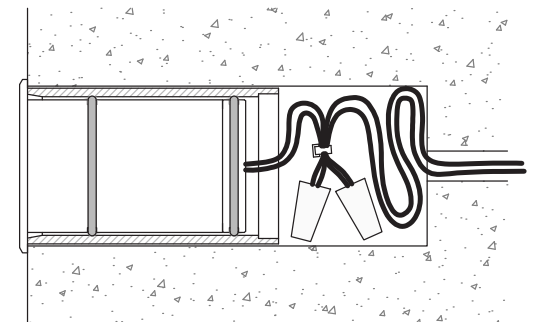

Figure 1c
6. Feed wires into Housing and slide the Faceplate/Cylinder assembly in until the Faceplate bottoms out on the mounting surface, being sure to orient the Faceplate to produce the desired effect. (Figure 1c)
11. Feed wires into Housing and slide the Faceplate/Cylinder assembly in until the Faceplate bottoms out on the mounting surface, being sure to orient the Faceplate to produce the desired effect. (Figure 1c)
9. Feed wires into Housing and slide the Faceplate/Cylinder assembly in until the Faceplate bottoms out on the mounting surface, being sure to orient the Faceplate to produce the desired effect. (Figure 1c)
12. Feed wires into Housing and slide the Faceplate/Cylinder assembly in until the Faceplate bottoms out on the mounting surface, being sure to orient the Faceplate to produce the desired effect. (Figure 1c)
8. Feed wires into Housing and slide the Faceplate/Cylinder assembly in until the Faceplate bottoms out on the mounting surface, being sure to orient the Faceplate to produce the desired effect. (Figure 1c)